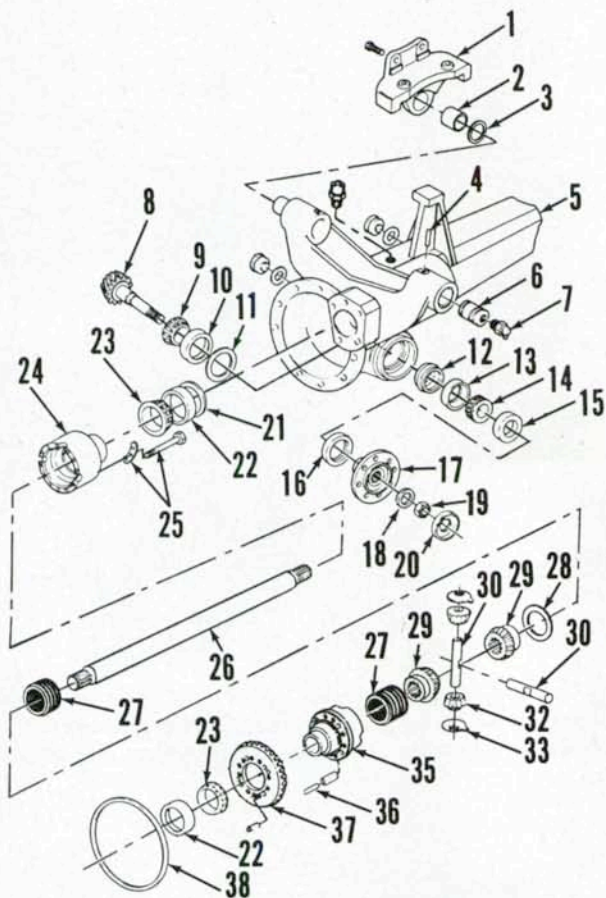

Fig. 15—Exploded view of differential components and right axle housing used on APL-355 axles. The APL-345 axle is similar.
To remove bevel pinion gear assembly, disconnect drive shaft from pinion flange. Remove nut (19—Fig. 15) and withdraw drive flange (17) from pinion shaft. Drive the pinion (8) into axle housing until it is free from outer bearing. Remove bearing and oil seals from the axle housing.
Differential carrier bearing preload must be adjusted with bevel pinion removed from carrier housing and with axle shafts removed from left and right axle housings. To adjust bearing preload, install original shim packs (21—Fig. 15) into axle housings, then press in bearing cups (22). Wrap a cord around differential case, then install differential assembly into right axle housing and pass end of cord out through pinion shaft bore. Assemble left axle housing onto right housing and tighten four equally spaced retaining cap screws to 220 ft.-lbs. (295 N·m) torque. Attach a suitable spring scale to cord and measure the pull required to steadily turn the differential assembly as shown in Fig. 16. The pull should be between 4-13 pounds (2-6 Kg). Increase shim thickness if pull is too low, or decrease shim thickness if pull is too high. After bearing preload is correctly set, remove the differential assembly.
**12. BEVEL PINION ENGAGEMENT.** If axle housing, bevel pinion or pinion bearings are being renewed, the pinion engagement position must be set as outlined below. The pinion engagement is adjusted by shims (11—Fig. 15) located behind pinion inner bearing cup (10).
Position pinion inner bearing cone (9—Fig. 15) into inner bearing cup. While holding the cup and cone tightly together, measure the thickness of the bearing assembly. This will be dimension "Y."
Subtract dimension "Y" from dimension "X." The result will be dimension "Z." From dimension "Z" subtract the dimension (in millimeters) etched next to the serial number on end of pinion. The difference obtained is the required thickness of shims (11—Fig. 15) to be installed behind the pinion inner bearing cup.
**13. PINION INSTALLATION AND BEARING ADJUSTMENT.** Position correct thickness of shims (as determined in paragraph 12) into bore of axle housing, then install inner bearing cup (10—Fig. 15). Press rear bearing cone onto pinion (8), then insert pinion into housing bore. Position a new bearing preload sleeve (12) on pinion shaft. Install outer bearing cup (13), bearing cone (14), oil seal (15) and dust seal (16) into housing. Install flange (17), washer (18) and retaining nut (19) on the pinion, but do not tighten nut at this time. Using a suitable torque wrench, rotate pinion and measure rolling resistance of pinion bearings with zero preload. Secure pinion shaft and tighten pinion nut in small increments, stopping to check torque required to rotate pinion, until torque reading has increased 12-18 in.-lbs. (1-2 N·m) above initial zero preload reading.
**14. DIFFERENTIAL INSTALLATION AND BACKLASH ADJUSTMENT.** Divide original shim pack, or shims as established in paragraph 11, equally and install shims (21—Fig. 15) and bearing cups (22) into axle housings. Install axle shafts in axle housings. Position differential assembly in right axle housing. Install left axle assembly and tighten retaining cap screws to 218 ft.-lbs. (295 N·m) torque.
If backlash is excessive, transfer shims (21—Fig. 15) from right axle housing to left axle housing to move ring gear closer to pinion gear. If backlash is less than specified minimum value, move shims from left axle housing to right axle housing. Do not change the total shim pack thickness as bearing preload would be affected.
er tooth contact pattern is not obtained, pinion engagement shim pack (11—Fig. 15) is incorrect and adjustment procedure (paragraph 12) should be repeated.